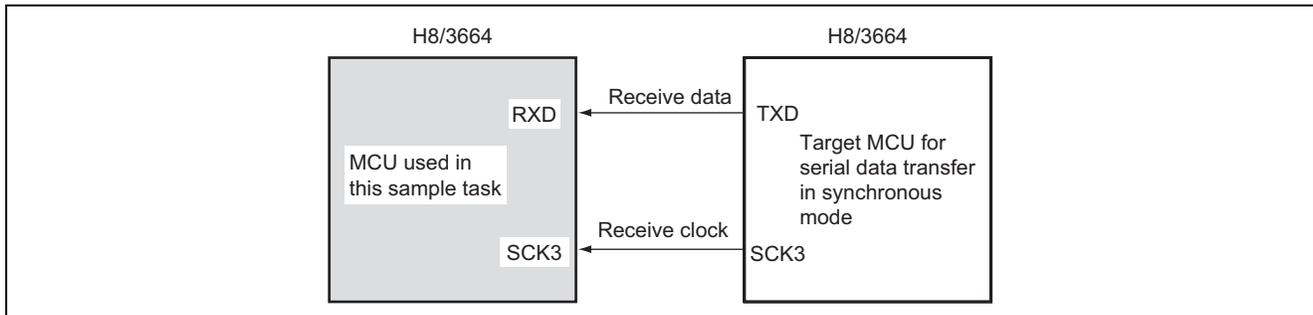

Figure 1 Serial Data Reception in Synchronous Mode
1. Four bytes of 8-bit data are received by serial data transfer in synchronous mode, as shown in figure 1.